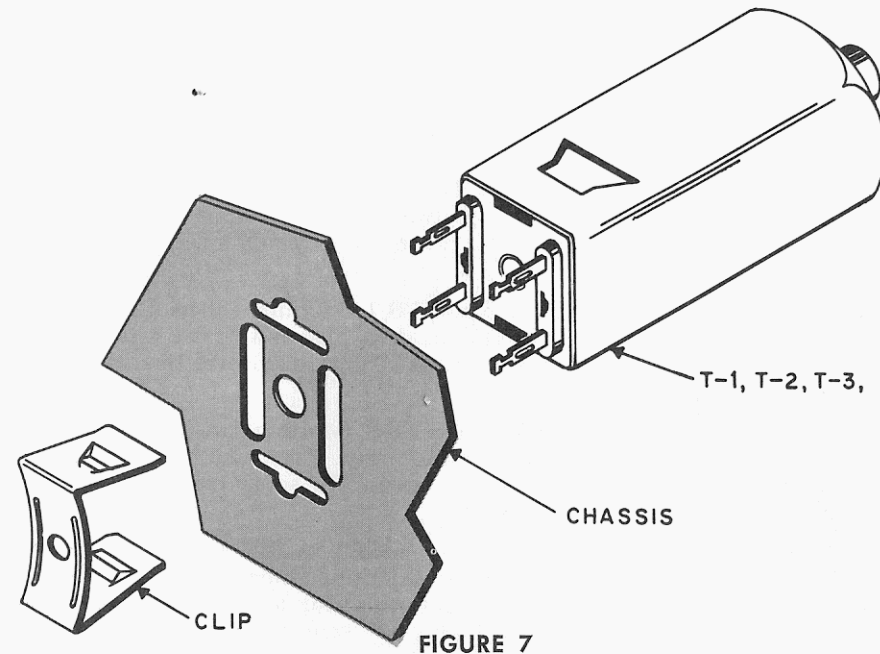

FIGURE 7
- T-1, IF transformer in metal can, (T-1 stamped on can). Mount the transformer to the **top** of the chassis with the **color dot** in the position shown. See Figure 7. Fasten with a U shaped metal clip. Insert the ends of the clip in the two slots from the bottom of the chassis. While holding the coil in position, push the clamp onto the can until both ends of the clamp snap into position on the sides of the can.